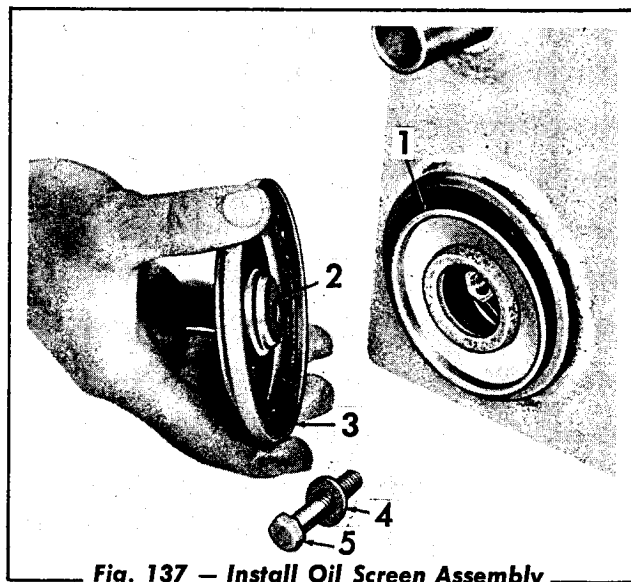

Fig. 137 — Install Oil Screen Assembly
8. Position the transfer gear housing upright and install the oil screen assembly (Fig. 137). The retainer, and the cover and gasket. Install the capscrew and washer. Be sure that the washer is in good condition to prevent oil or air leakage.